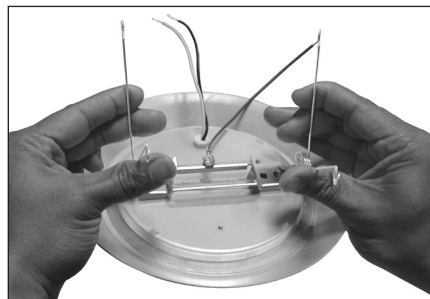

Figure 5
2. Snap strap with springs back onto fixture (see Figure 5).